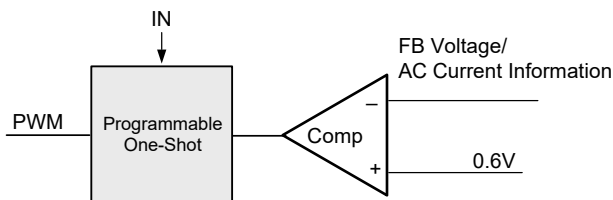

Figure 3. Simplified Control Schematic of AOZ2262NQi-12
The simplified control schematic is shown in Figure. 3. The high-side switch on-time is determined solely by a one-shot whose pulse width can be programmed by one external resistor and is inversely proportional to input voltage (IN). The one-shot is triggered when the internal 0.6V is higher than the combined information of FB voltage and the AC current information of inductor, which is processed and obtained through the sensed lower-side MOSFET current once it turns-on. The added AC current information can help the stability of constant-on time control even with pure ceramic output capacitors, which have very low ESR. The AC current information has no DC offset, which does not cause offset with output load change, which is fundamentally different from other V2 constant-on time control schemes.